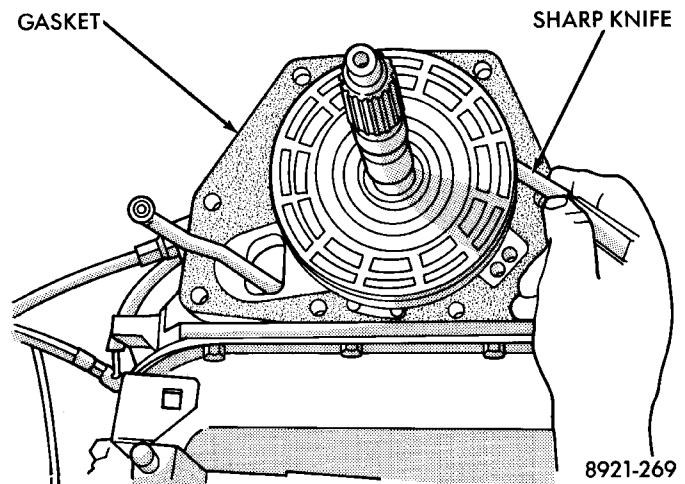

Fig. 35 Trimming Overdrive Case Gasket
- (1) Be sure overdrive unit Alignment Tool 6227-2 is fully seated before moving unit. If tool is not seated and gear splines rotate out of alignment, overdrive unit will have to be disassembled in order to realign splines.
- (2) If overdrive piston retainer was not removed during service and original case gasket is no longer reusable, prepare new gasket by trimming it.
- (3) Cut out old case gasket around piston retainer with razor knife (Fig. 35).
- (4) Use old gasket as template and trim new gasket to fit.
- (5) Position new gasket over piston retainer and on transmission case. Use petroleum jelly to hold gasket in place if necessary. Do not use any type of sealer to secure gasket. Use petroleum jelly only.